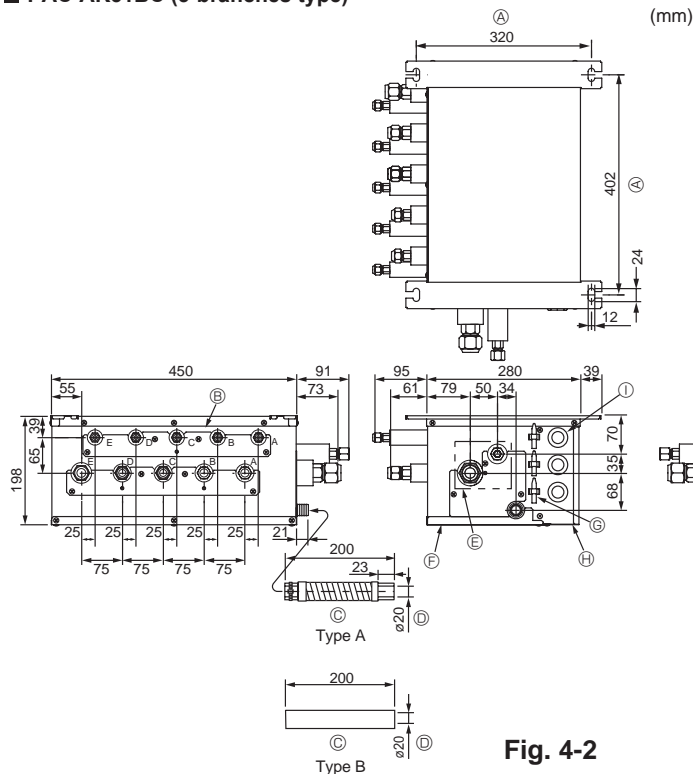

Fig. 4-2
■ PAC-AK51BC (Fig. 4-2)
- (1) Install the suspension bolts (procure locally) at the specified pitch (Fig. 4-2, 4-3).